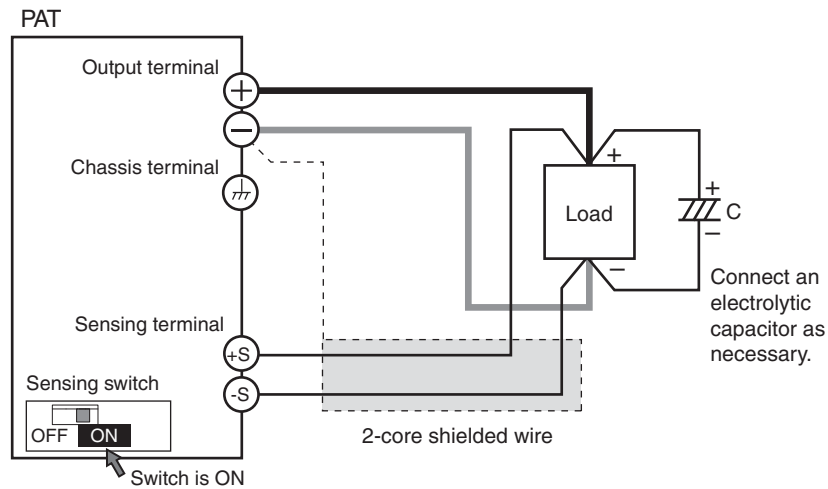

Fig.2-28 Remote sensing connection
- 3 As shown in Fig.2-28, connect the sensing cable between the sensing terminal and the load terminal.